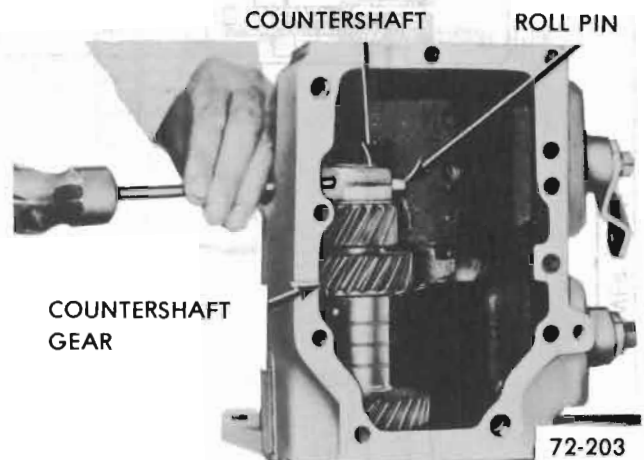

Figure 72-72 - Removing Countergear Shaft Retaining Pin
5. Through filler plug hole drive out countershaft to case retaining pin. See Figure 72-72.